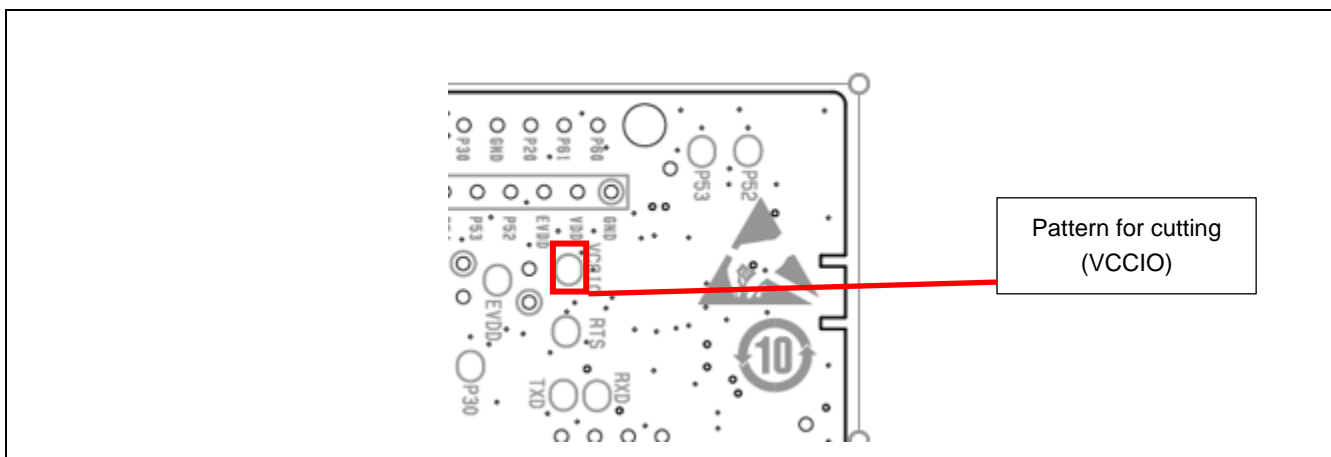

Figure 5-11 Position of the Pattern for Cutting (VCCIO)
Insert an ammeter between the sockets of the current measurement header (J18) to measure the current. Cut the pattern for cutting (VCCIO) (Figure 5-11) and turn down the LED to reduce the current drawn with an MCU other than the evaluation MCU.
If you intend to use this board without connecting a USB connector, cut the given pattern for cutting (VCCIO). Figure 5-11 shows the position of the pattern for cutting. Also make the J15 header open-circuit (header components are not mounted).
4. If power to be supplied to this product other than via the USB, make J15 open-circuit and cut the pattern for cutting (VCCIO) (Figure 5-11).